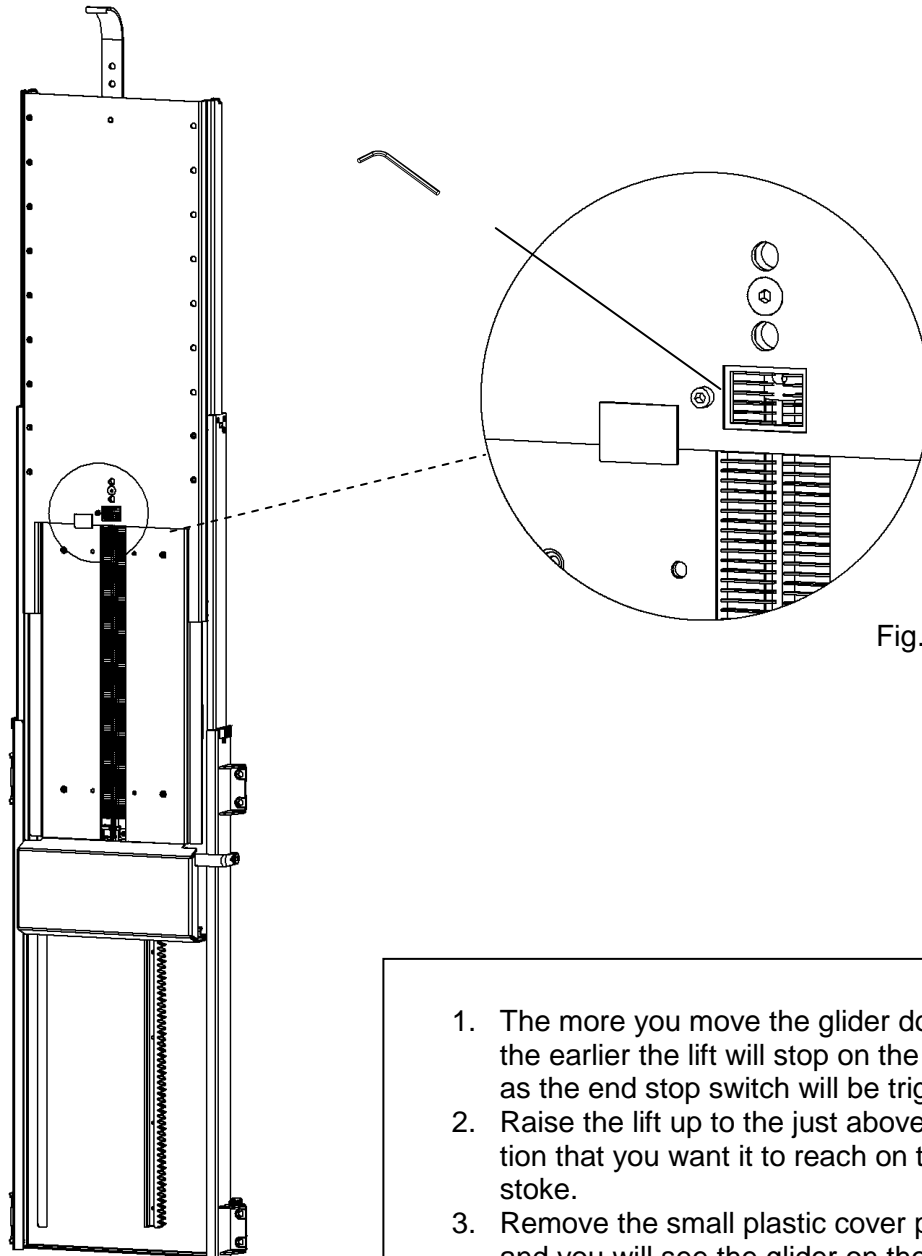

Fig. 1
3. Remove the small plastic cover plate (see fig.1) and you will see the glider on the cable.
4. Use a 2.5mm Allen key to loosen the screw inside the glider. (see fig.1)